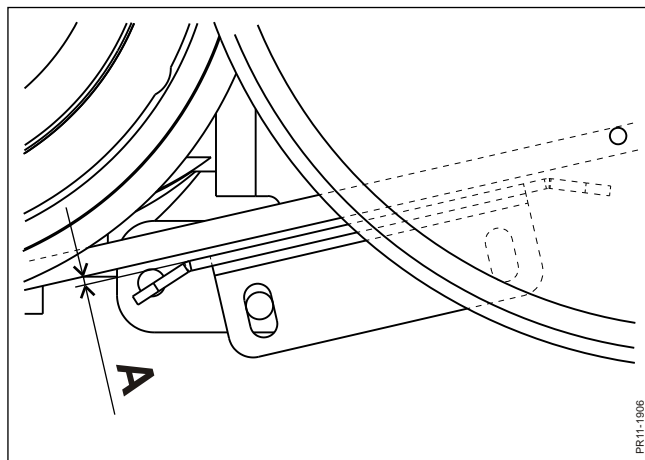

Fig. 4-38
**Fig. 4-38** A belt guide has been fitted under the belts to drive the feed intake. The function of the belt guide is to ensure that the feed intake comes to a standstill quicker when the machine is put into neutral position. The machine must be in the feed intake position when the distance **A** is adjusted, which must be 2-4 mm.